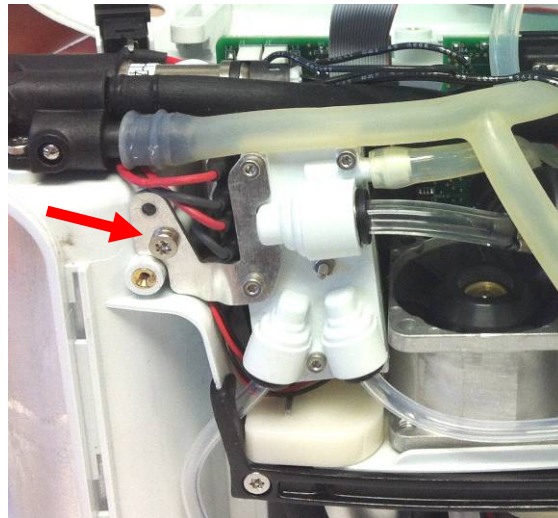

Figure 10: Manifold bracket screw
3. Remove the screw securing the manifold bracket to the chassis (Figure10).